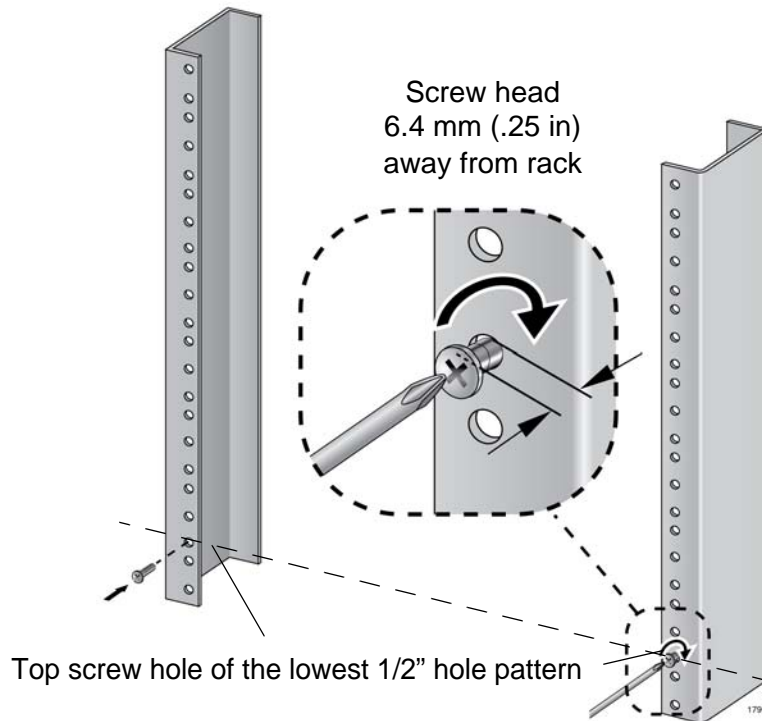

Figure 43. Rack Mounting Hole Locations
4. Install one rack mount screw in each vertical rail, at the same height in the top screw hole of the lowest 1/2" hole pattern, as shown in Figure 43. The screws are used to support the chassis while you secure it to the rack. Do not fully tighten these two screws at this time. The screw heads should protrude from the rack approximately 6.4 mm (.25 in).